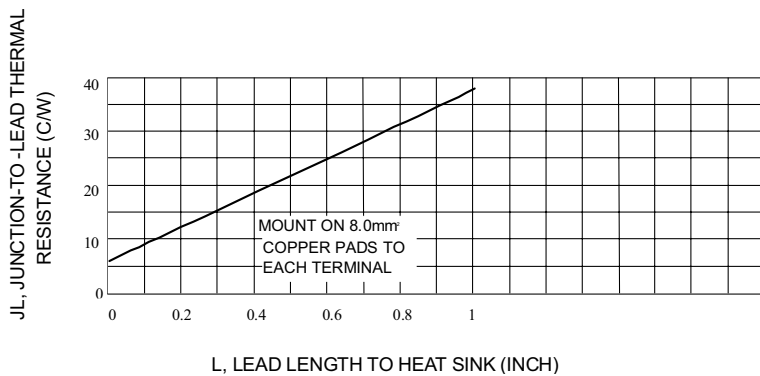
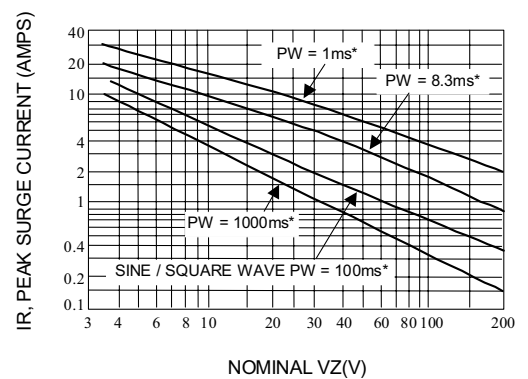
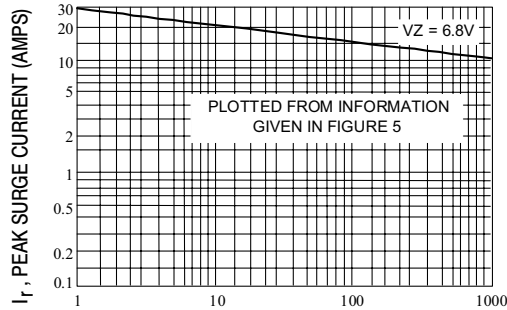

Fig. 4-TYPICAL THERMAL RESISTANCE
Fig. 5-MAXIMUM NON-REPETITIVE SURGE CURRENT VERSUS NOMINAL ZENER VOLTAGE (SEE NOTE 3)
Fig. 6-PEAK SURGE CURRENT VERSUS PULSE WIDTH(SEE NOTE 3)
3. SURGE CURRENT ( $I_r$ ) - Surge current is specified as the maximum allowable peak, non-recurrent square-wave current with a pulse width, PW, of 8.3 ms. The data given in Figure 5 may be used to find the maximum surge current for a square wave of any pulse width between 1 ms and 1000ms by plotting the applicable points on logarithmic paper. Examples of this, using the 6.8v, is shown in Figure 6. Mounting contact located as specified in Note 3. ( $T_A=25^\circ\text{C}$ ).
$\Delta T_{JL}$  is the increase in junction temperature above the lead temperature and may be found from Figure 4 for a train of power pulses or from Figure 1 for dc power.
Data of Figure 4 should not be used to compute surge capability. Surge limitations are given in Figure 5. They are lower than would be expected by considering only junction temperature, as current crowding effects cause temperatures to be extremely high in small spots resulting in device degradation should the limits of Figure 5 be exceeded.
\*\*\* Data of Figure 3 should not be used to compute surge capability. Surge limitations are given in Figure 5. They are lower than would be expected by considering only junction temperature, as current crowding effects cause temperatures to be extremely high in small spots resulting in device degradation should the limits of Figure. 5 be exceeded